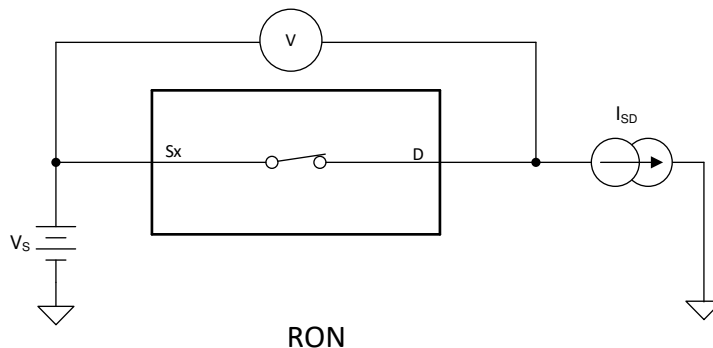

图 8-1. On-Resistance Measurement Setup
The on-resistance of a device is the ohmic resistance between the source (Sx) and drain (D) pins of the device. The on-resistance varies with input voltage and supply voltage. The symbol R_{ON} is used to denote on-resistance. The measurement setup used to measure R_{ON} is shown in 图 8-1. Voltage (V) and current (I_{SD}) are measured using this setup, and R_{ON} is computed with $R_{ON} = V / I_{SD}$: